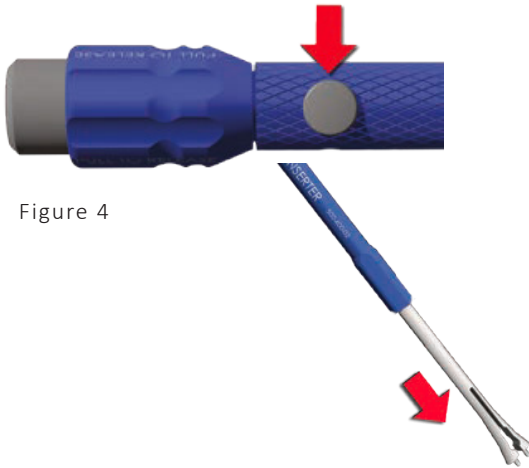

Figure 4
B. Depress the button on the body, pulling the forks away from the body. If the forks do not disengage, continue rotating the knob in the counter-clockwise direction with the button depressed until the forks pull away from the body. (See Figure 4)